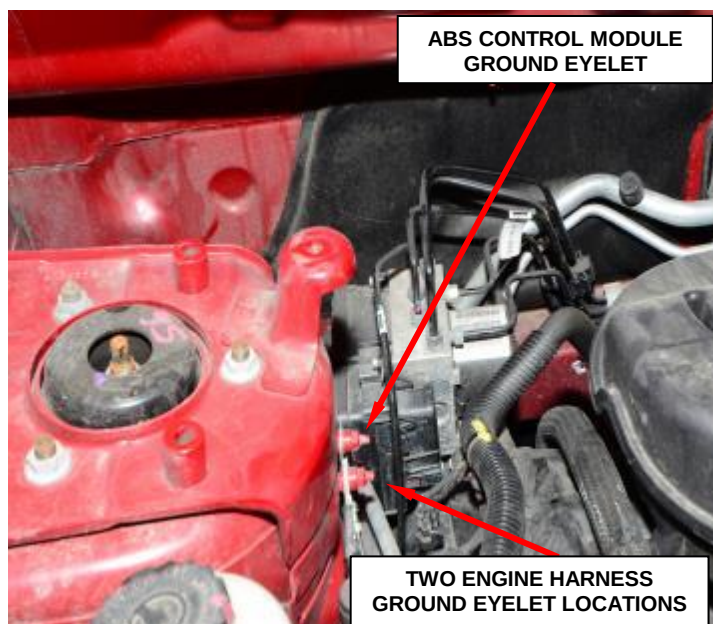

Figure 14 – Ground Eyelets
8. Remove and save the nut securing the ABS control module ground eyelet and the nut securing the two engine ground eyelets then remove the eyelets from the ground studs (Figure 14).